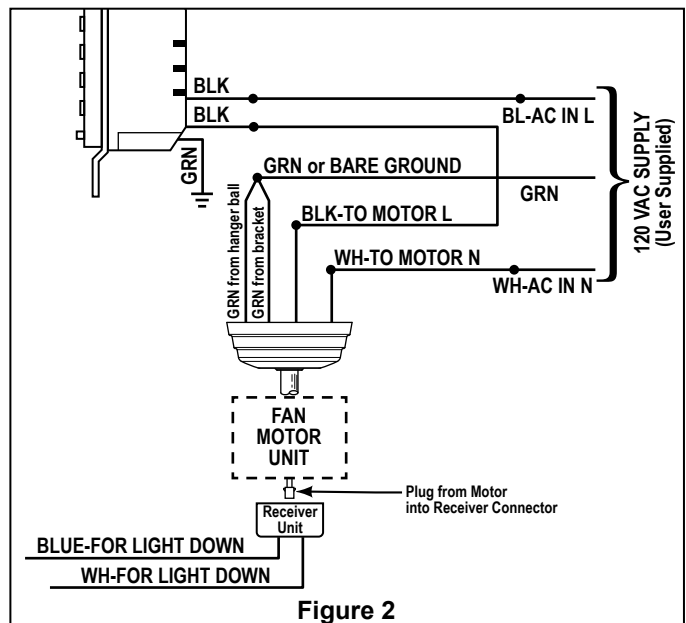

Figure 2
4. Attach the assembled blades to the bottom of the rubber flywheel using the flywheel screws provided. (Figure 2)
5. Make sure the screws securing the blade holders to the flywheel are tight and that the blade holders are properly seated on the flywheel. (Figure 2)
2 . Attach the cover switch housing to the fitter/light kit by feeding the wires (black & white) through the hole of the switch housing, place lockwasher over the fitter/light kit leads & nipple and fasten the fitter/light kit with the nut provided onto the nipple. Be sure it is tight enough to prevent fitter/light kit from vibrating loose (Figure 2).